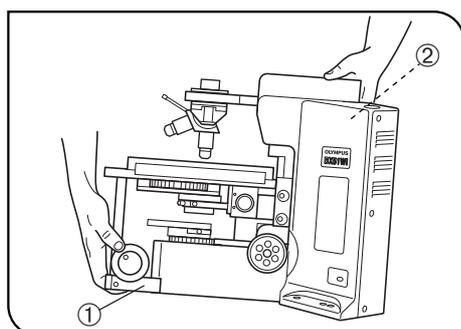

Fig. 1
- When moving the microscope, disconnect the reflected light illuminator, observation tube and transmitted light lamp housing and carefully carry the microscope by the base (front edge) ① and the grasping part on the rear of the arm ② as shown in Fig. 1. (Weight: approx. 15 kg.) Also be careful against slipping of hands during carrying.